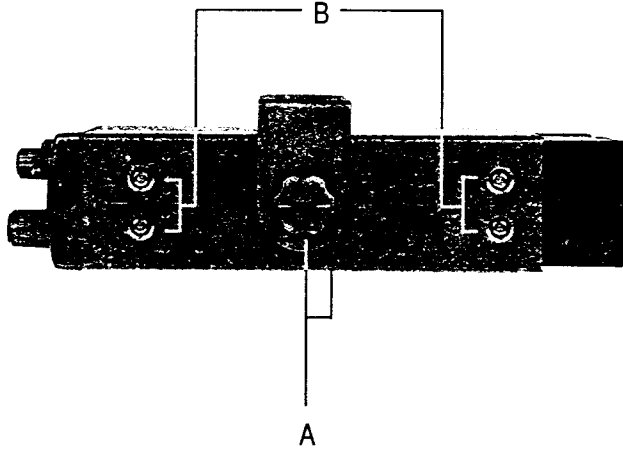
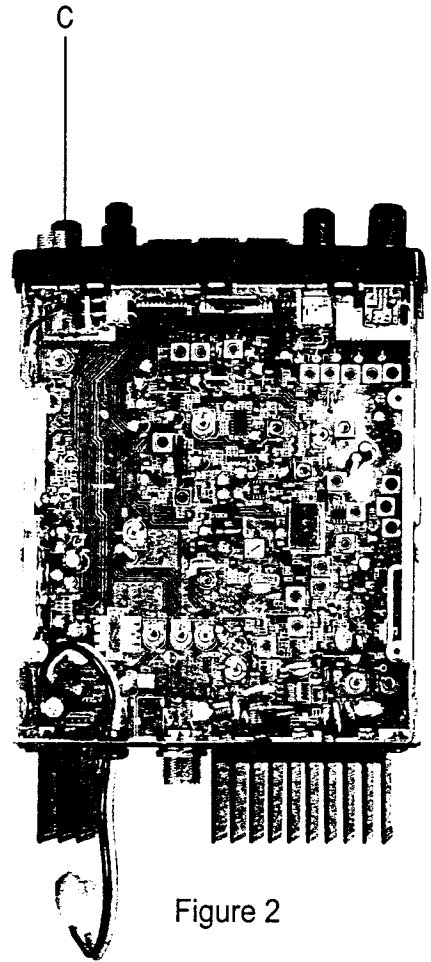

Figure 1
Figure 2
- To remove the Top and Bottom cover (Figure 1).
- Remove two mounting screws (A).
- Remove four screws (B) from each side of the top and bottom covers.
- To remove the Front panel Assembly (Figures 2, 3 and 4).
- Remove ring nut (C).
- Remove six knobs (D).
- Remove four screws (E) from each side. Pull the front panel.